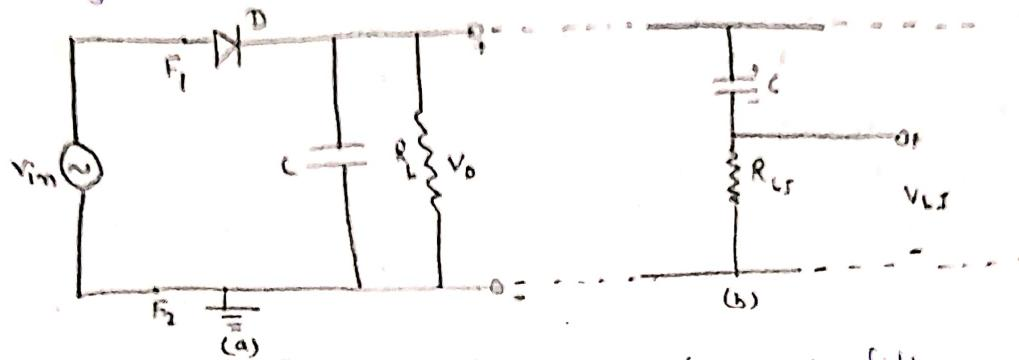

Fig. 1: Half wave rectifier with filter
- 1.) Now connect a capacitor  $C = 22\mu F$  in the circuit with correct polarity as shown in Fig. 1(a).
- 4.) Connect a  $R_{L_1} = 5\text{ }k\Omega$  resistance in series with  $C$  of Fig 1(b). The points across this  $R_{L_1}$  are marked as  $p$  and  $q$ . Note: The resistance  $5\text{ }k\Omega$  is chosen small enough not to affect the overall performance of the circuit and at the same time to ensure an appreciable voltage across it. This voltage represents the current flowing through the capacitor.